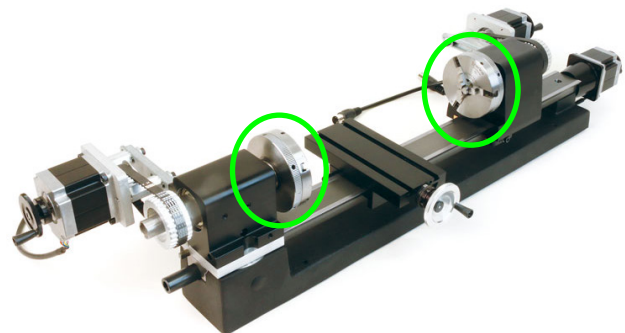

FIGURE 4—The green ovals show two 3.1" 3-jaw chucks.
- A. You can use chucks for holding your part if you are using a mandrel. You can choose either a 2.5" diameter or 3.1" diameter chuck (see Figure 4).